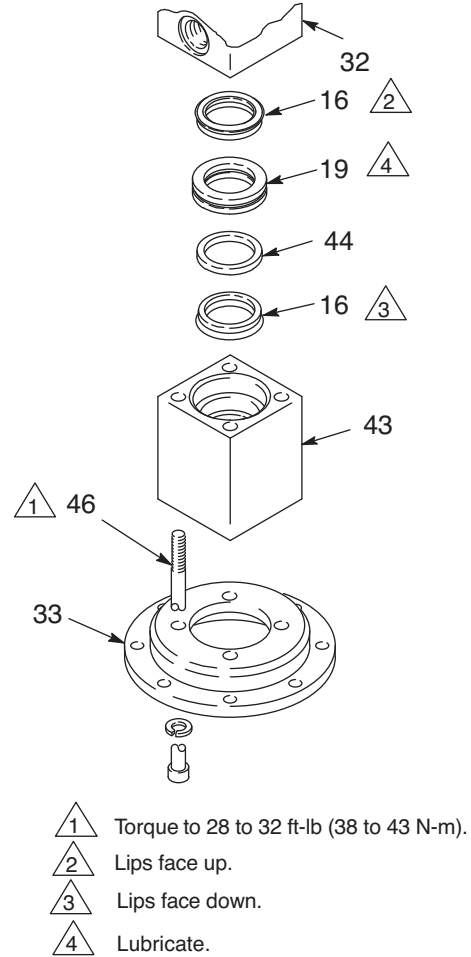

FIG. 6
Refer to FIG. 6 for the following instructions.
3. Remove the four capscrews (46) from the bottom of the adapter (43). Tap the adapter to loosen it, and pull it off the bottom cap (32).
4. Remove the seals (16, 44) and guide (19) from the top of the adapter (43).
5. Lubricate the guide (19) and install the seals and guide in the adapter (43) one at a time in the order shown in FIG. 6.
6. Reassemble. Torque the capscrews (46) to 28 to 32 ft-lbs (38 to 43 N.m). Install the displacement pump. Follow Step 24, page 18.